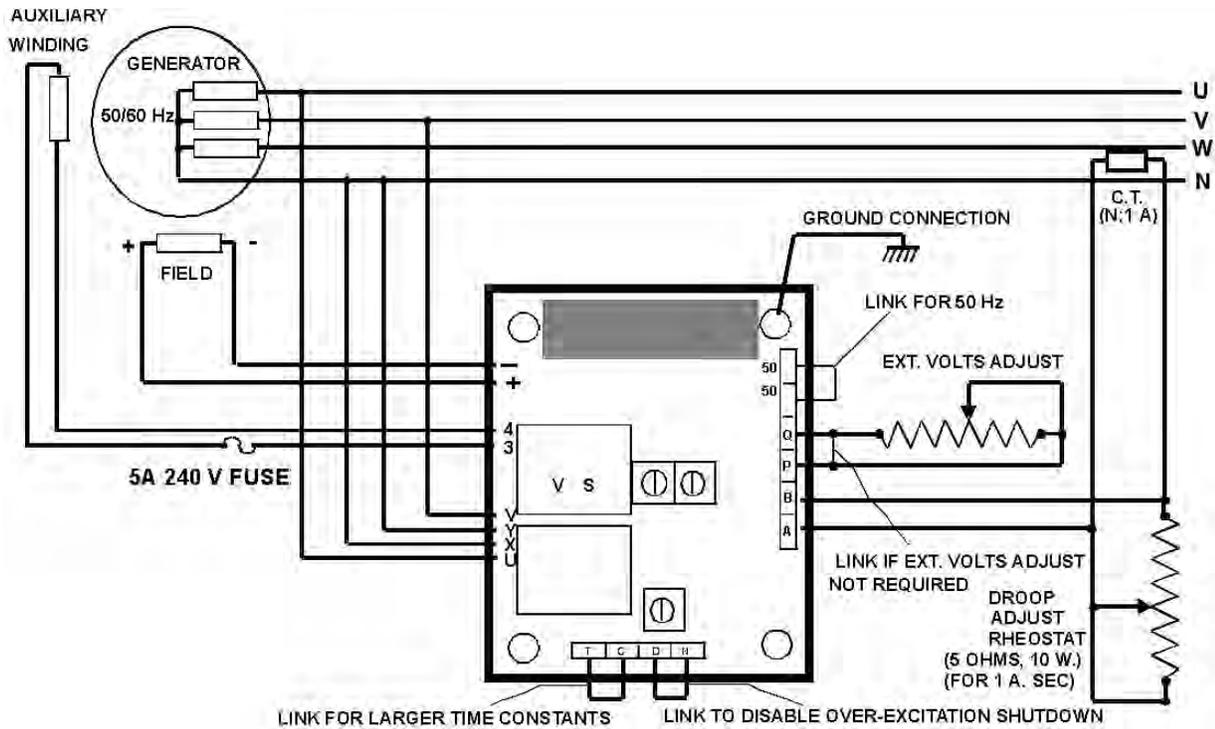

Figure 5. Interconnection Diagram, 480 Vac Generator
Connect regulator + wire to the brushless exciter field F+ terminal, and the - wire to the field F-terminal. Refer to Figure 5.
Connect wiring as shown in Figure 5. Power for the regulator is derived from the generator auxiliary winding, connected to wires 3 and 4. The operable power input range is 220-260 Vac.
An internal screwdriver preset (V) provides coarse adjustment of generator output voltage. A clockwise adjustment of V increases voltage. The voltage regulator is shipped from the factory with a link across terminals P and Q. If a remote voltage adjust rheostat is used, the link should be removed and the rheostat connected to P and Q. A 1 kilo-ohm, 0.5 W potentiometer will provide a 'fine' voltage range adjustment of approximately ±10% over most of the coarse range of adjustment. See Figure 5, *Interconnection Diagram*.